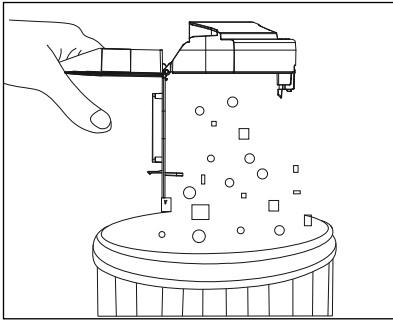

Fig. 9
- 3) Empty the contents of the dust container **16** into a waste container (see Fig. 9).